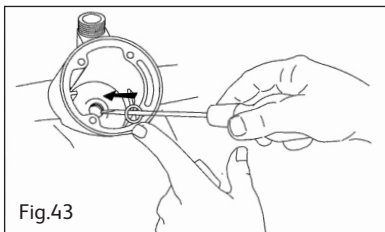

Fig.43
10. The new O-ring may be fitted into position by first sliding it onto the blade a screwdriver. Hold the tip of the screwdriver into the hot water way and then manoeuvre the O-ring down into position (Fig 43).